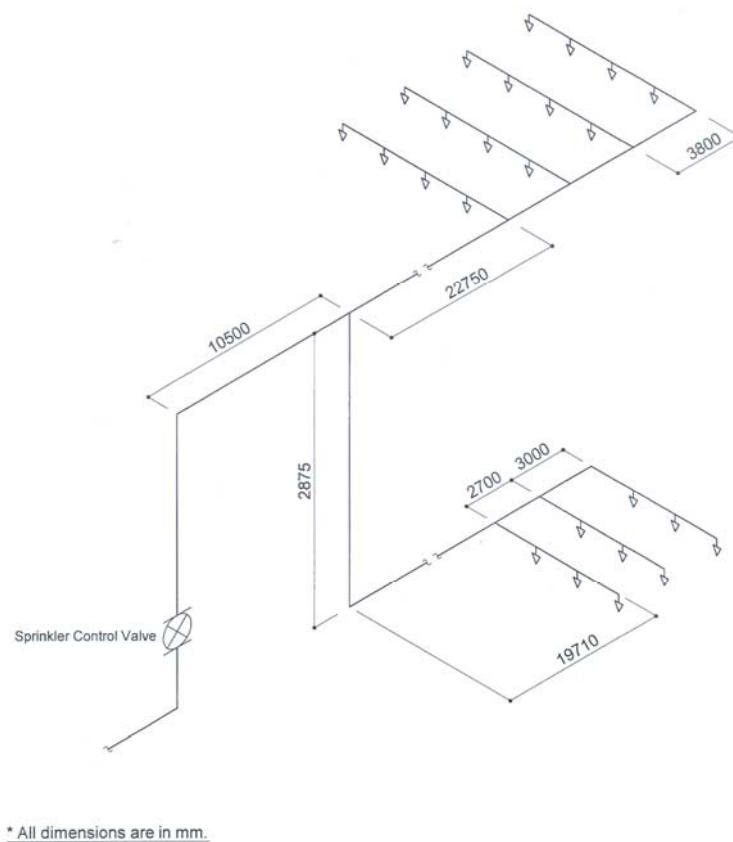

Figure Q4. Isometric design of an Ordinary Hazard Group II sprinkler system
Use the isometric design of an Ordinary Hazard Group II sprinkler system as shown in Figure Q4, to design according to the pre-calculated method.
- Determine the water supply requirements and show them on Figure Q4.